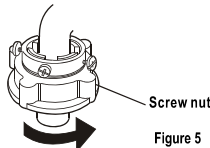

Figure 5
4. Extend the drain hose from the other side. Fix the drain hose with drain hose frame onto the cabinet, as indicated in Figure 5.
4. Take off the nameplate. Twist the fastening nut as per the indication of the figure to seal up the exit end face of the faucet. See to Figure 5.